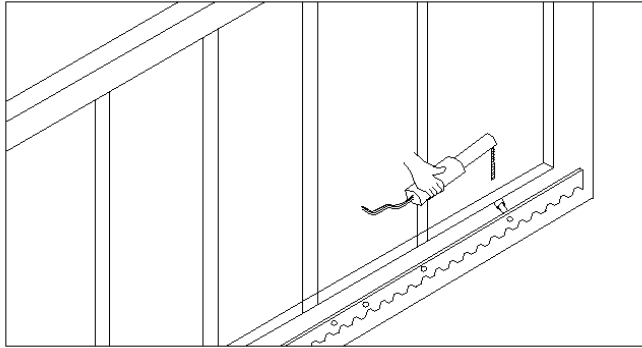

Fig.4
- Install the limit block as shown in Fig.4 and Fig.5. The magnetic of limit switch and blocks are used to control the position of the